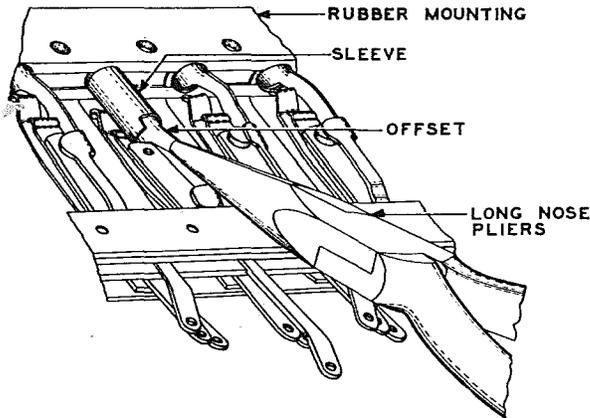

Fig. 8 - Method of Forcing Sleeve Forward into Rubber Mounting
just in back of the sleeve, using the long-nose pliers. Force the sleeve forward in the rubber mounting by grasping the sleeve terminal with the long-nose pliers at the offset as shown in Fig. 8 until the portion of the sleeve terminal that holds the stud (high hat bushing) in place is just to the rear of the hole in the stop spring. Insert the stud in the hole in the stop spring, using the long-nose pliers; then, while depressing the stud with the thumb, continue to force the sleeve into the rubber mounting, making sure that the stud slips under the sleeve terminal.
3.15 On 229-type Jacks: Force the sleeve forward in the rubber mounting, as for the 92- and 292-type jacks, by grasping the sleeve terminal with the long-nose pliers just behind the sleeve, similar to Fig. 8. Continue forcing the sleeve forward until the sleeve is flush with the front of the rubber mounting.